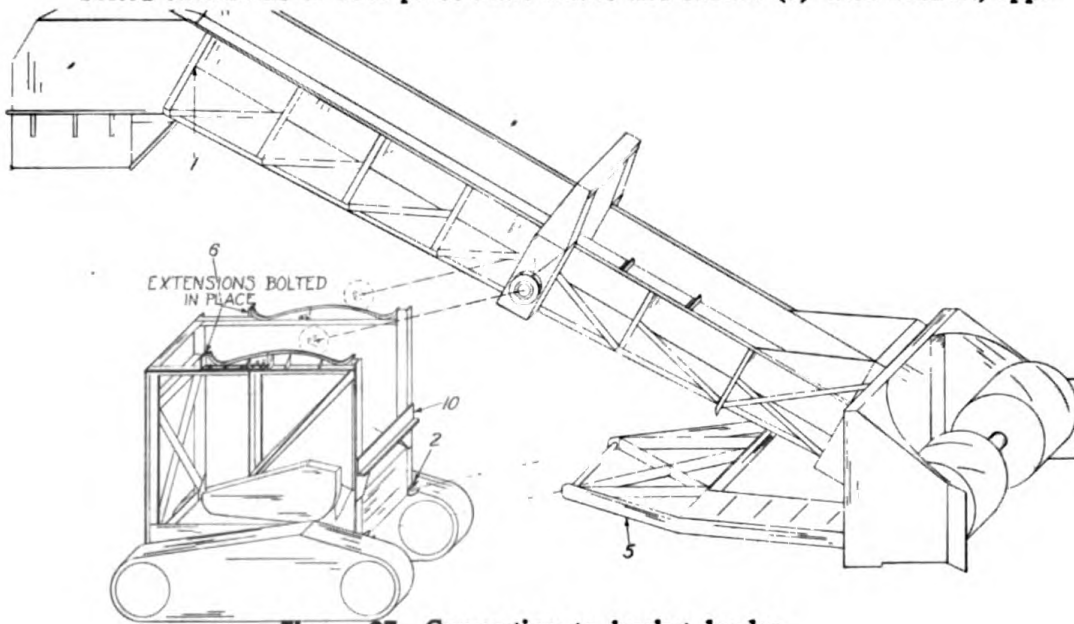

Figure 87. Converting to bucket loader.
As a rule there are no crane facilities with which to lift the elevator. Any overhead structure high enough to drive the machine under and rugged enough to hold the weight of the elevator may be used. In case such a structure is not available an "A" frame, well braced, may be built. In this latter method the stored elevator may be left in "working position" so a minimum amount of work is necessary to change the elevator. The replacement elevator will have to be hoisted into position the first time a change is made securing the elevator to an "A" frame or overhead structure. However, after this initial hoisting job on the replacement elevator there is no further hoisting problem since the elevator is to be stored in an upright or "working position." See Figure 87.
Remove cross brace (10) Figure 87 on front upright angles of superstructure.